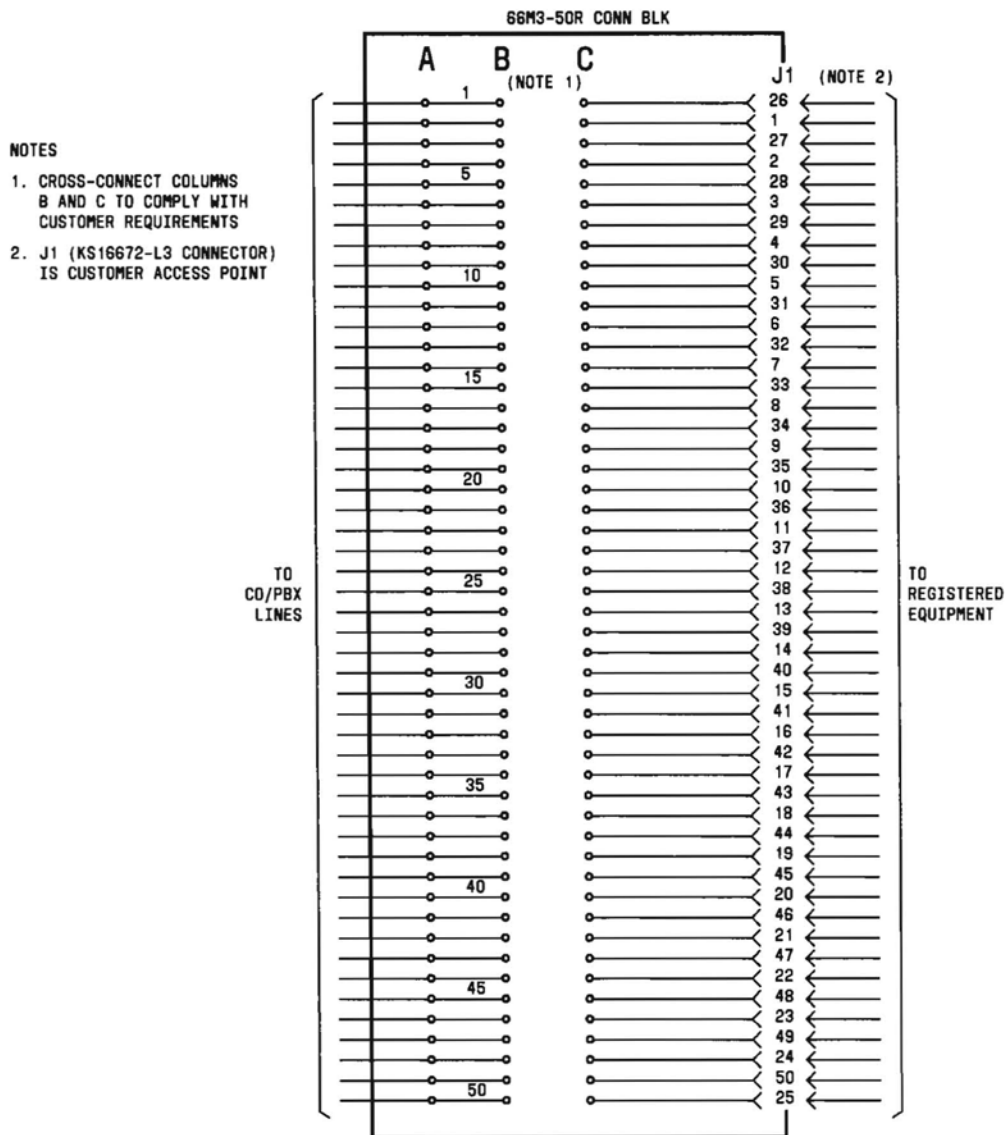

Fig. 2—66M3-50R Connecting Block Terminal Layout
**3.05** Provide CO/PBX lines by placing appropriate CO/PBX feeder cable, D station or cross-connect wire, to selected column A terminals (Fig. 2 or 3).